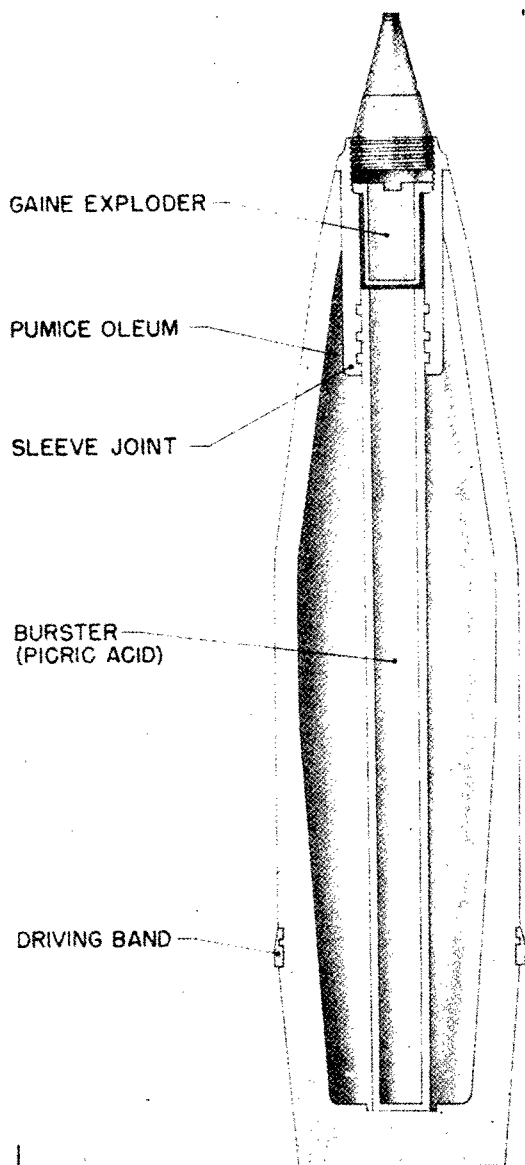

Figure 469—Smoke Projectile for Field Howitzer, 105-mm, 10-cm F. H. Gr. Nb.
**GERMAN NOMENCLATURE:** 10-cm F. H. Gr. Nb. (Feld Haubitze Granate Nebel). (See fig 469.)